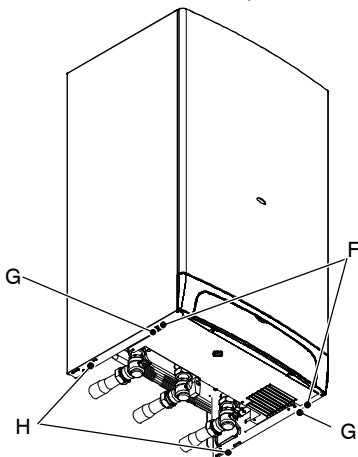

Fig. 6.9
- 2 Remove the screws F and G (Fig. 6.9).